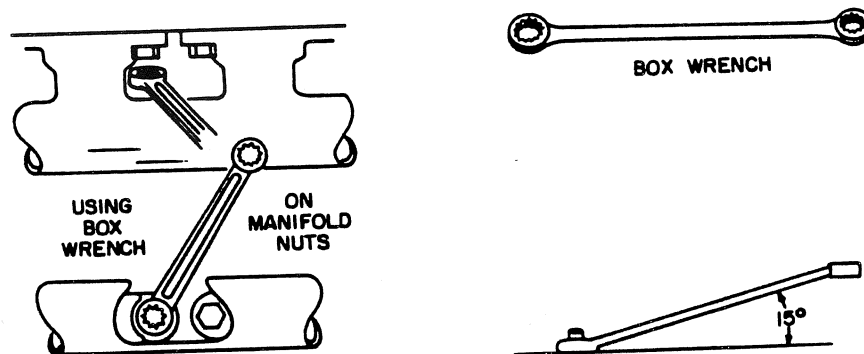

Figure 10.25. Box Wrenches
1. Box wrenches are very popular with mechanics. One reason for this is that they can be operated in very close quarters. They are called "box" wrenches because they box or completely surround the nut or bolt head. (Figure 10.25)